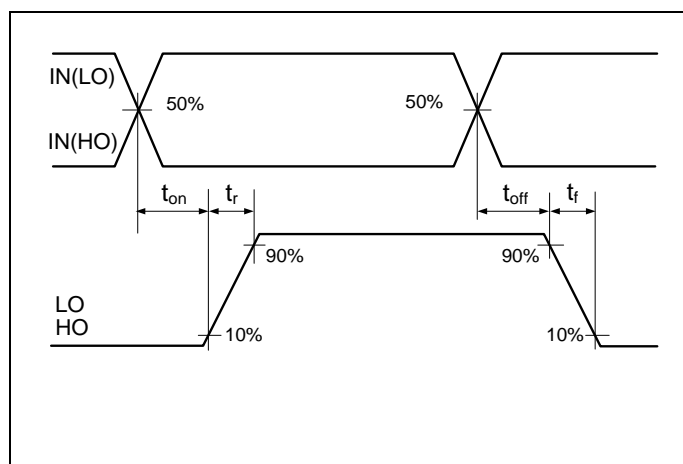
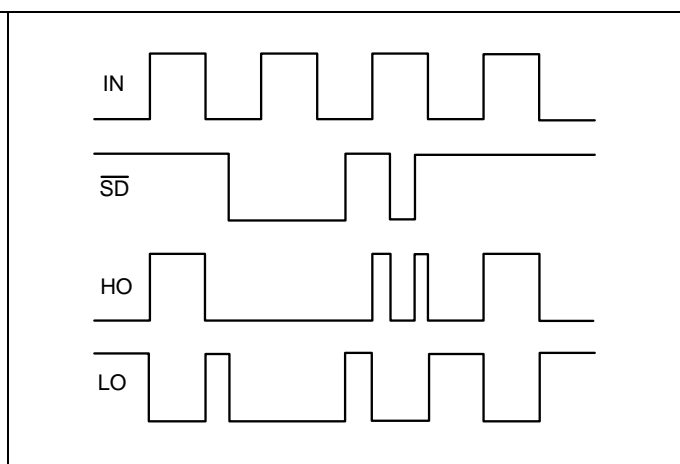

Figure 6 Switching timing diagram
Figure 7 Input/output logic diagram
The relationships between the input and output signals of the 2ED2109 (4) S06F (J) are illustrated below in Figure 6 and Figure 7. From these figures, we can see the definitions of several timing parameters (i.e. t_{ON} , t_{OFF} , t_R , and t_F) associated with this device.
2ED2109 (4) S06F (J) provides an enable functionality that allows to shutdown or to enable the output. When /SD is pulled up (the enable voltage is higher than V_{ENH}) the output is able to operate normally, pulling /SD low (the enable voltage is lower than V_{ENL}) the output is disable. The relationships between the input, output and enable signals of the 2ED2109 (4) S06F (J) are illustrated below in Figure 7 / 12. From these figures, we can see the definition of the parameter (i.e. t_{sd}) associated with this device.